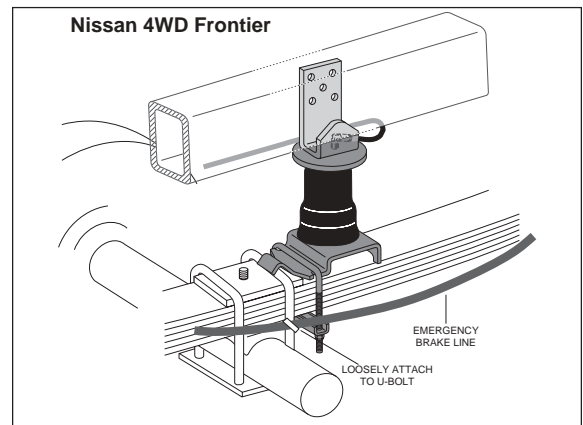

Figure 6
**IMPORTANT: NISSAN FRONTIER 4WD:** The emergency brake line must be secured to prevent it from rubbing the air spring. Use one of the provided tie straps and LOOSELY secure to the the leaf spring U-bolt (Figure 6).